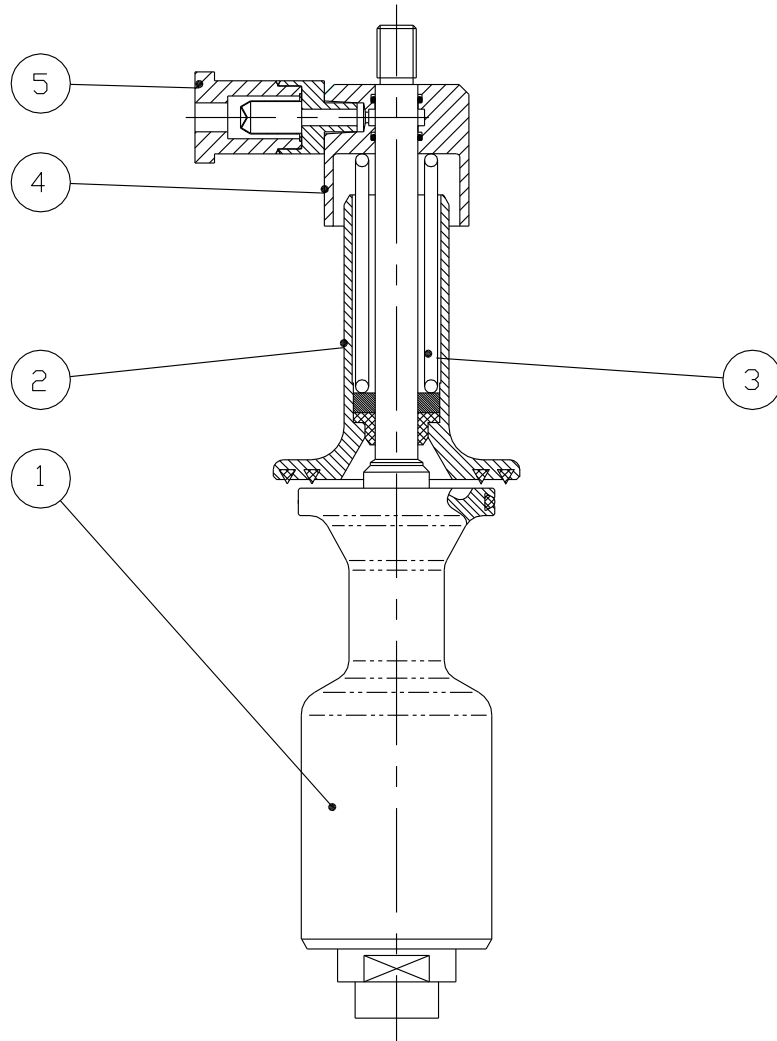

Fig MBCSP5
10.0 POPPET COMPONENTS (Fig MBCSP5)